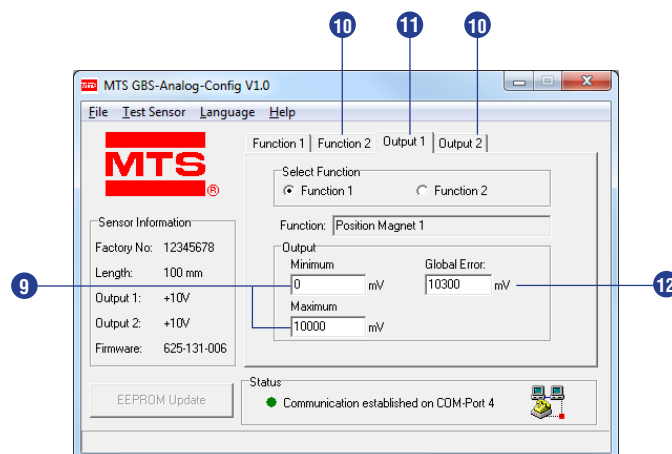

Fig. 36: Example of tab controls
- 9 The field **Output Minimum** indicates the current or voltage value which should be output at the startpoint of the selected function. The output value pertaining to the endpoint must be specified in field **Output Maximum** (Fig. 36).
- 10 On tabs **Function 2**, **Output 2**, the second analog output can be set (Fig. 36).
- 11 On tab **Output 1** the corresponding analog output signals can be allocated (Fig. 36).
- 12 Unless a position magnet is missing or if it is in the sensor's dead zone, i.e. out of measuring range, **Global Error** is output. The error value can be adjusted within **-0.7...20.3 mA** respectively **-0.4...10.4 VDC** (Fig. 36).